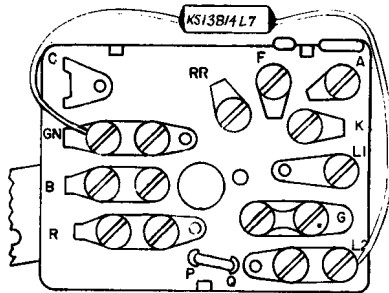

FIGURE 13. 500 and 554 Type Telephone Set,
- 7.04 The KS-13814, List 7 capacitor is installed in the 500 and 554 type telephone sets as shown in Figure 13. It is connected across the L2 and GN terminals of the 425 network as shown. Place the capacitor against the side of the network nearest the ringer. Cover the exposed portions of the capacitor leads with tubular insulation.